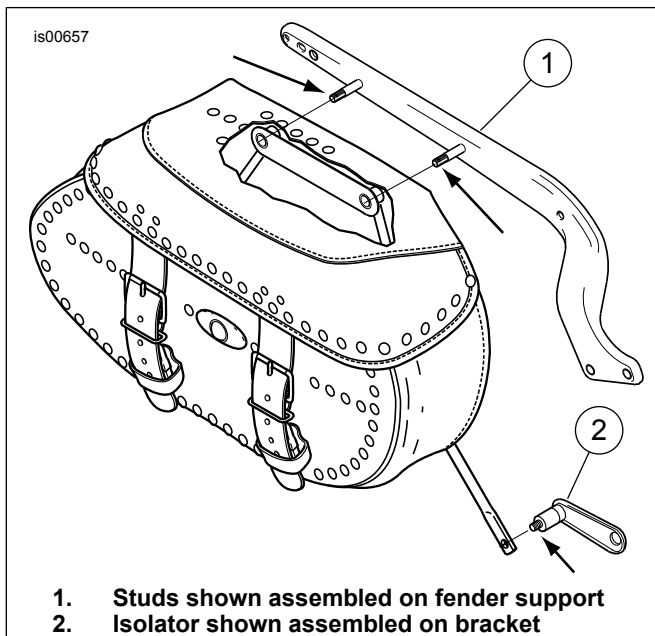

Figure 4. Position saddlebag over studs, and position bracket over isolator.
8. See Figure 4. Open saddlebag and position saddlebag over mounting studs, and position bracket over rubber mount isolator.